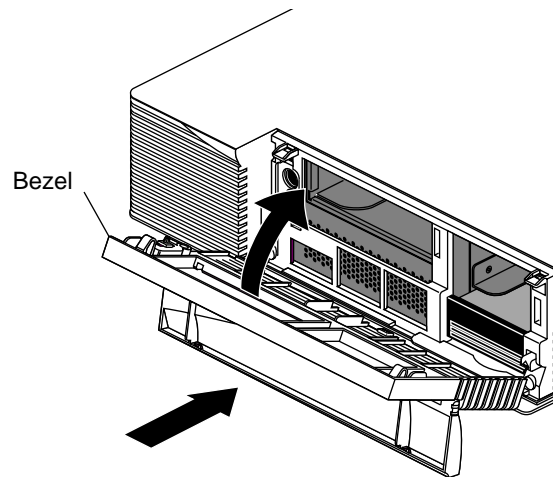

Figure 9-32 Replacing the Bezel
- Place the tabs on the bottom of the bezel into the grooves in the front of the chassis, as shown in Figure 9-32.